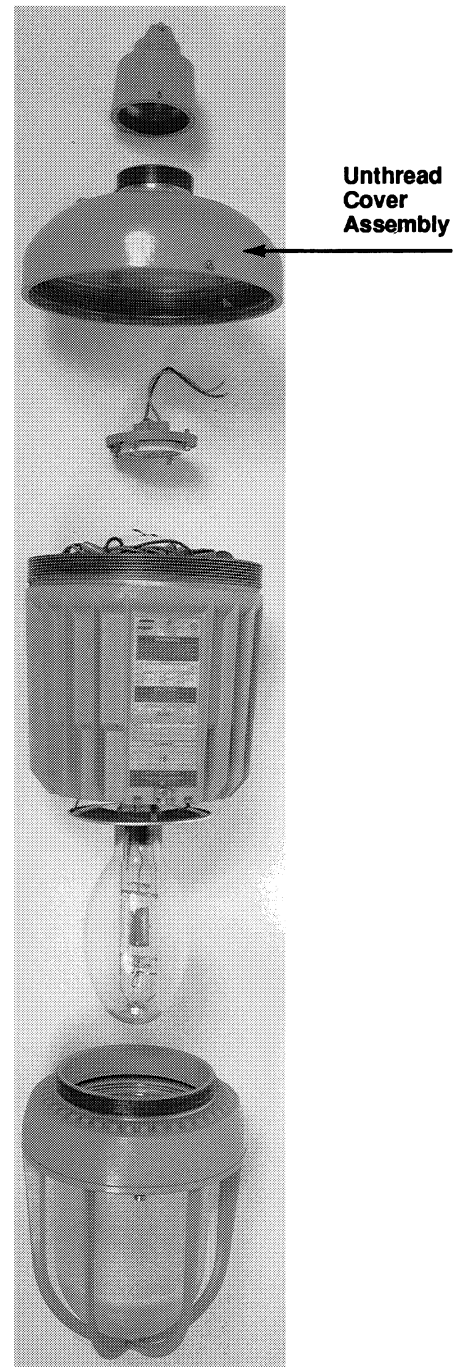

Figure 1
1. Unthread cover assembly from ballast housing and set aside. (see figure 1)